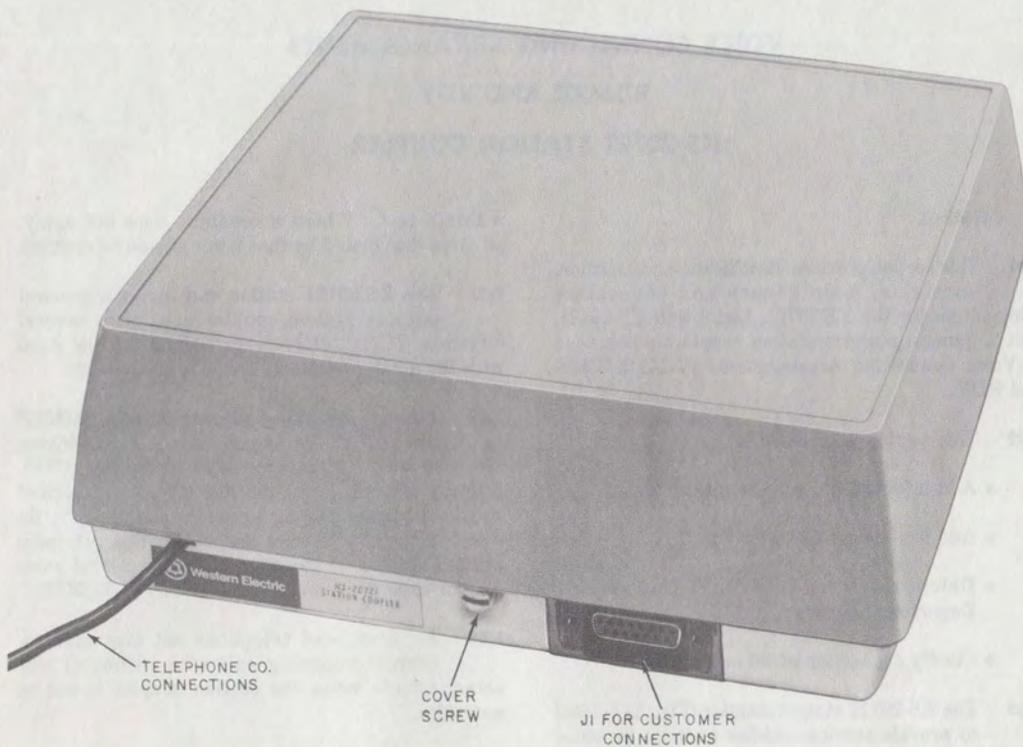

Fig. 1—KS-20721, List 1 and List 2 Station Coupler
1.03 The KS-20721 station coupler (Fig. 1) is used to provide services similar to those provided by the KS-19522 recorder coupler for answering sets and recorders. However, the plug and wiring connections may be different and substitution should not be made without customer approval.
- Coupler, Station, KS-20721, L1 (Fig. 1 and 2)
- Coupler, Station, KS-20721, L2 (Fig. 1 and 3)
3.02 A 15-pin connector (J1, Fig. 1) is located on the base of the unit to connect the transmission path and control leads to the CPE. The mating plug (P1) is an ITT-Cannon Electric or Cinch Mfg. Co. No. DA-19603-403 plug with hood No. DA-51225-1 and is customer provided. Screw terminals on the left side of the printed circuit board provide